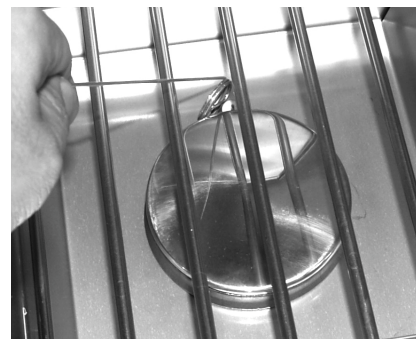

Fig. 29-2 - Manual lighting
**CAUTION:** Always wait five (5) minutes for gas to clear after any unsuccessful lighting attempt.
2. Insert either a burning long-barrel butane lighter, a burning long-stem match, or a burning match held by a wire extension holder through the cooking grids to the burner (Fig. 29-2). Hold the flame against the edge of the burner.
4. If the burner does not light within five (5) seconds of turning the control knob, **immediately depress the knob and turn the valve to OFF**. **WAIT FIVE (5) MINUTES** before repeating steps 2 through 4 of the MANUAL LIGHTING instructions.